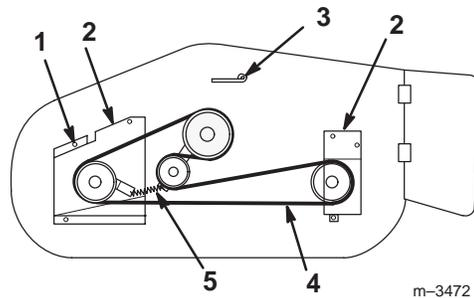

Figure 36
- Remove the pulley cover mounting screws and pulley covers from the blade pulleys (Fig. 36).
- Release the spring (Fig. 36).
- Remove the belt from the pulleys (Fig. 36).
- Attach the spring (Fig. 36).
- Install the left and right pulley covers with the mounting screws (Fig. 36).